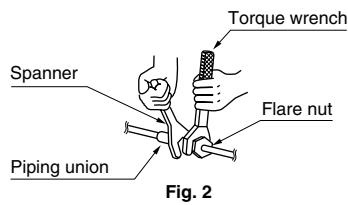

Fig. 2
- Be sure to use both a spanner and torque wrench together when connecting or disconnecting pipes to/from the unit. **(Refer to Fig. 2)**